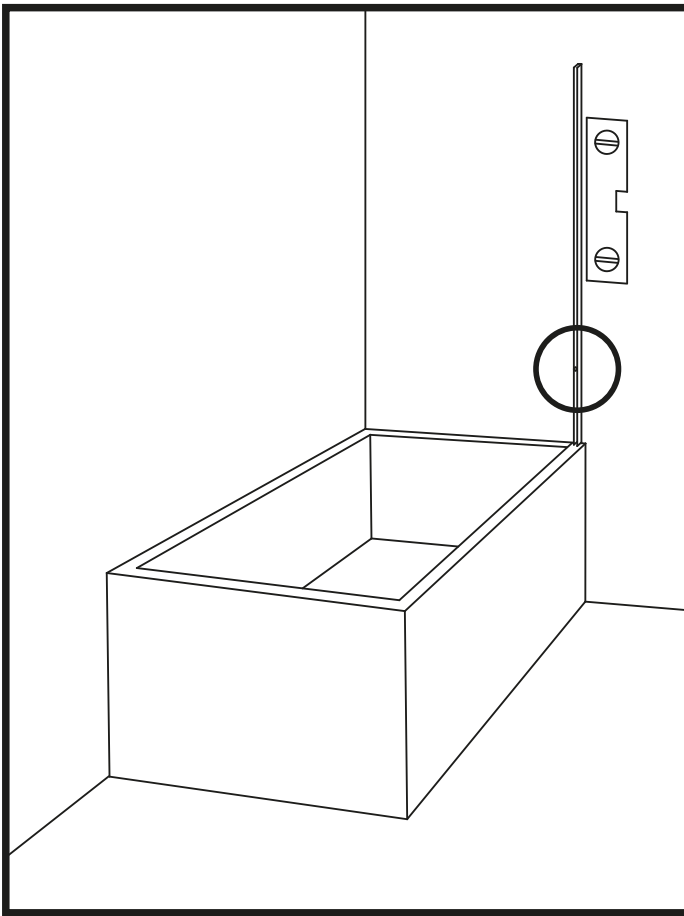

Figure 3
3. Place the longer U-channel vertically on the wall using a level so that the edge of the U-channel is flush with the marked dot and the end of the channel is against the edge of the bathtub. Mark the holes in the channel (the locations of the dowel holes) on the wall and remove the channel. If marks remain on the edges of the ceramic tiles, try turning the channel the other way and making the marks again. (Fig 3)